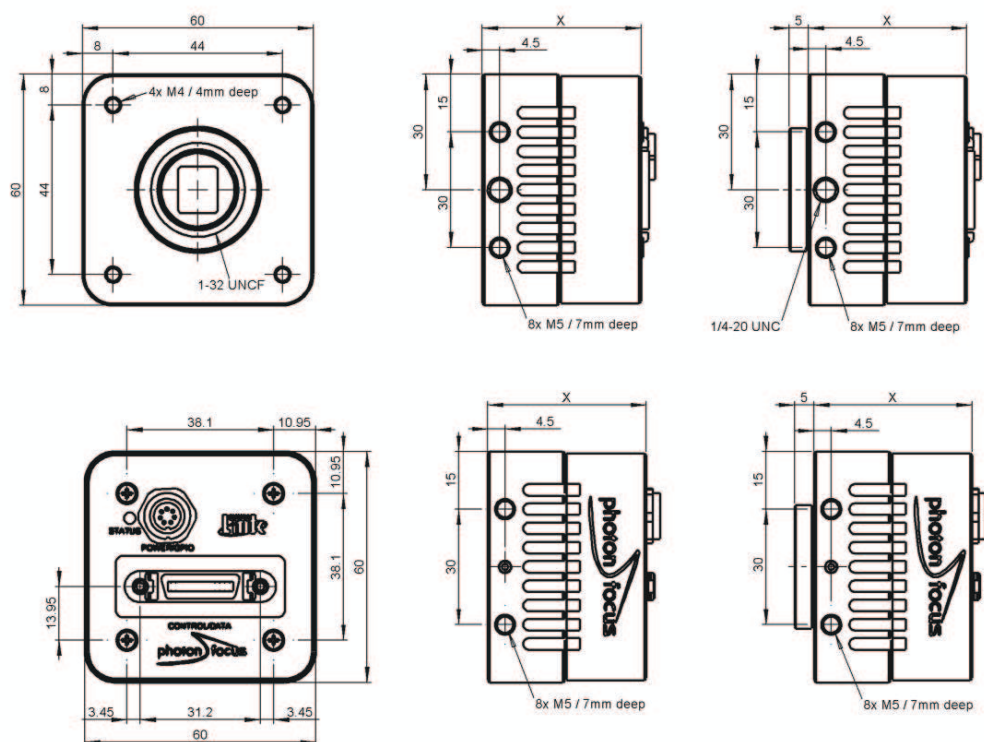

Figure 8.1: Mechanical dimensions of the CameraLink model, displayed without and with C-Mount adapter
Fig. 8.1 shows the mechanical drawing of the camera housing for the MV1-D1312(I) CMOS cameras. The depth of the camera housing is given in Table 8.1 (all values in [mm]).